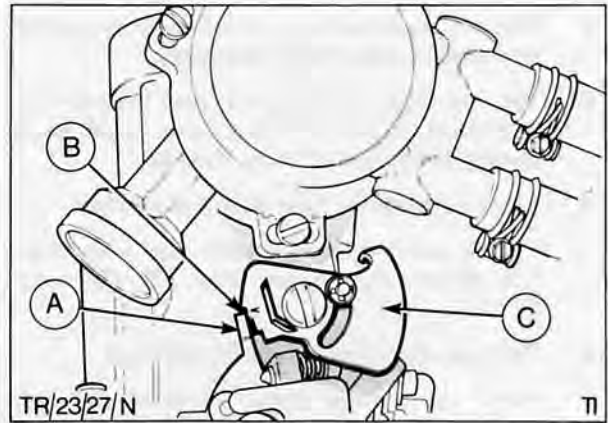

Fig. 52. Auto-choke mechanism set in the 'fast idle' position ('V' mark lined up with top of throttle lever).
- (iii) Manually push the fast idle cam downwards on to the first step. ('V' mark position), Fig. 52.
- (v) Adjust as required by bending tag on throttle lever, Fig. 52. To bend tag use a pair of pliers, or to make adjustment easier make up a special tool as shown on page 11, Fig. 21.